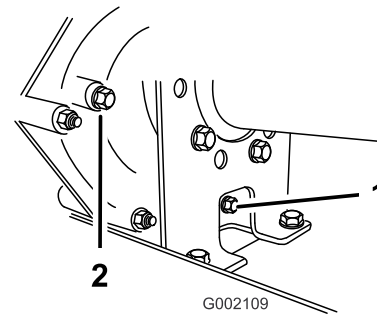
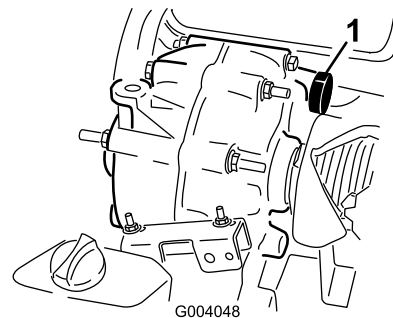

Figure 57
Figure 58
2. Wipe the area around the fill and drain plugs clean with a rag (Figure 57).
4. Remove the fill plug by rotating it counterclockwise (Figure 57).
5. Remove the drain plug by rotating it counterclockwise (Figure 57).
6. Install and tighten the drain plug and gasket into the drain-plug hole of the transmission (Figure 57).
7. Fill the reservoir (Figure 58) through the fill-plug hole with approximately 1.4 L (1.5 US qt) of the specified fluid or until the fluid level in the transmission is even with the bottom of the threads. (Figure 57).
8. Install and tighten the fill plug and gasket into the fill-plug hole of the transmission (Figure 57).
10. Check the fluid level and add more fluid if the level is below the threads of the fill-plug hole (Figure 57).